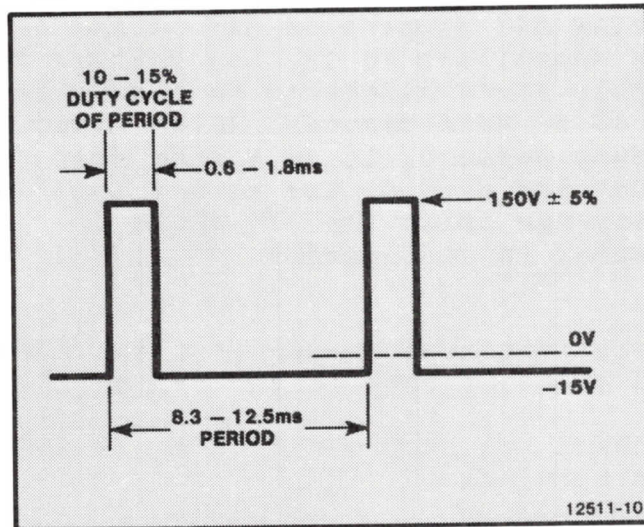

Figure 10-19. Flood Gun Anode Waveform.
5. While the terminal is in Hold mode, refer to the waveform in Figure 10-19.